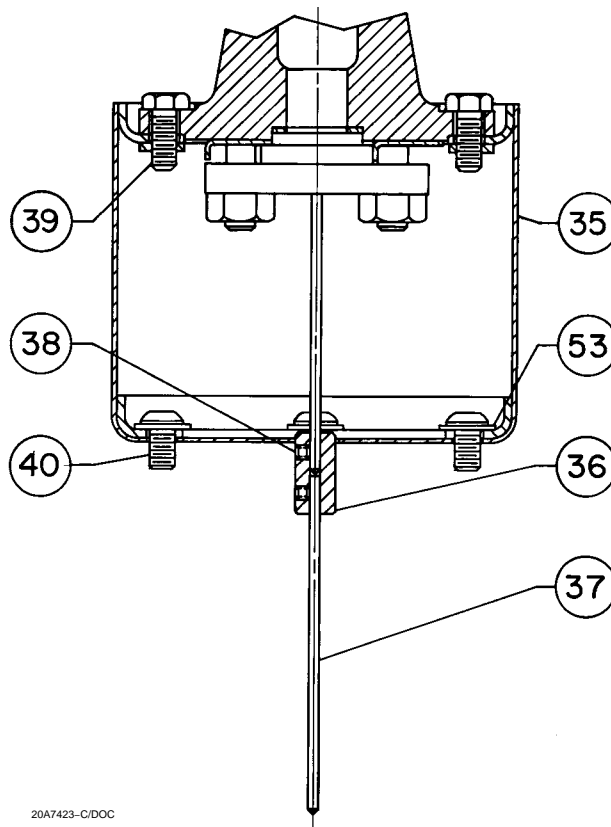

Figure 14. Heat Insulator for 249 Series Sensor
3. Remove any insulating tape from the joint between the controller/transmitter case and the torque tube arm. Remove the four cap screws (key 39, figure 14) that hold the controller/transmitter or heat insulator to the torque tube arm. Pull the case straight out from the torque tube arm, easing it over the shaft coupling (key 36, figure 14) if one is installed.
4. If the controller/transmitter has a heat insulator, remove the four button head cap screws and washers (keys 40 and 53, figure 14) and remove the insulator assembly.
Perform step 1 only if adding a heat insulator to a unit that does not have one. Key numbers in this step are shown in figure 14.
1. To install the heat insulator, secure the shaft extension (key 37) to the torque tube assembly rotary shaft with the shaft coupling (key 36). Tighten both set screws (key 38), with the coupling centered as shown in figure 14. Then mount the insulator assembly (key 35) on the controller/transmitter case with four button head cap screws and washers (keys 40 and 53). Tighten the screws.